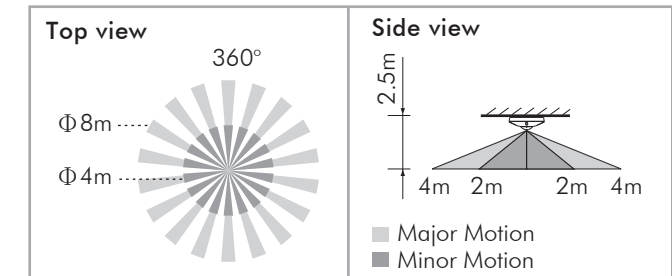

FIG.2
- 3.1.1 PMSCDD can be installed at the height of 2 - 3m, it's recommended to install it at the height of 2.5m to gain the optimal detection pattern, the detection range can reach up to the diameter of 8m and 360° detection angle (See FIG.2).